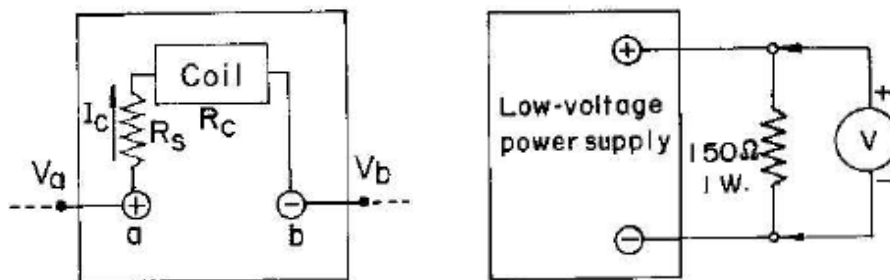

Fig. 2 (a) Circuit diagram of a voltmeter. (b) Circuit diagram for voltage measurement.
1. Designing a voltmeter that can measure the voltage up to 10V by a galvanometer. Use the formula 4 to compute the appropriate resistance R_s and find such a resistance. Install the voltmeter as shows in Fig. 2(a).
2. Parallel connect the voltmeter with the electric circuit shows in Fig. 2(b). Turn on the DC power supply in the range 5~8V, and read the magnitude of the voltage.
2. In Fig. 2(a), measure the voltage different of the 150Ω resistance by your voltmeter. And what is the current pass through your voltmeter?